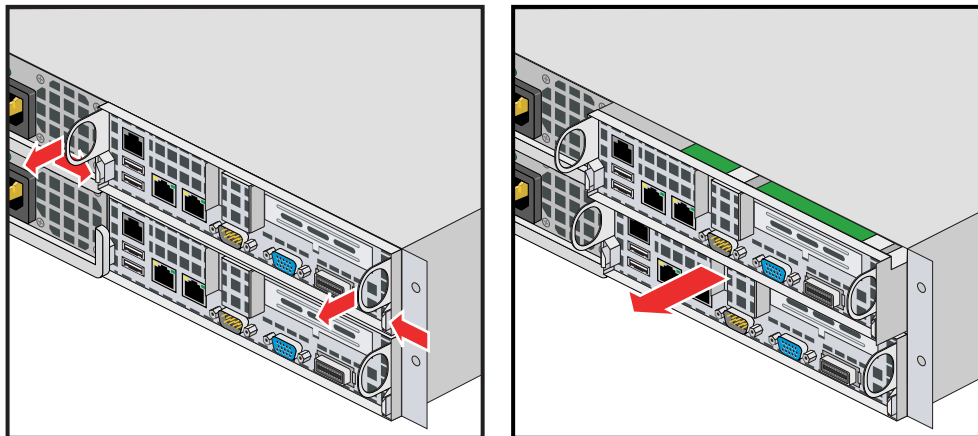

Figure 6-7 Extracting a Serverboard
4. Grasp the serverboard's circular handles at either end and simultaneously push inward on the tab beneath each handle, see Figure 6-7 on page 52 for an example.